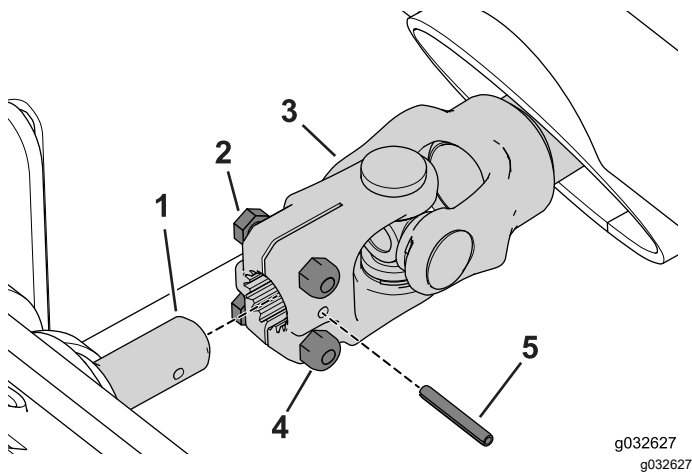

Figure 79
2. Align the roll pin holes and slide the PTO yolk over the PTO shaft on the winter frame (Figure 79).
3. Install the roll pin (Figure 79).